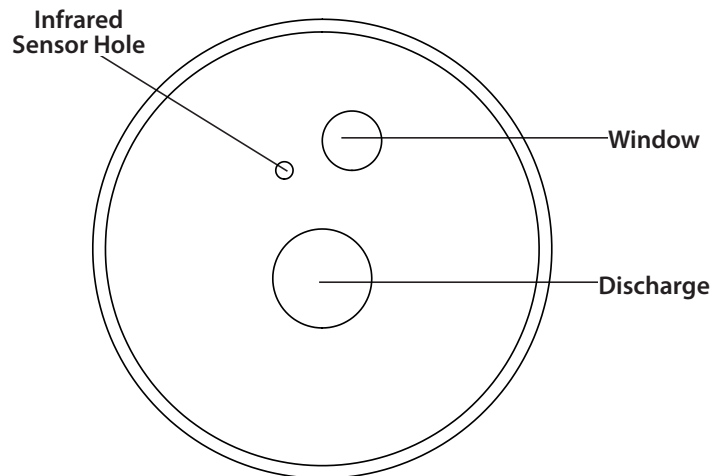

FIG. 22
Install the Dust Sentry Infrared Sensor (K) to the Drum Lid's (L) pre-cut hole [FIG. 22]